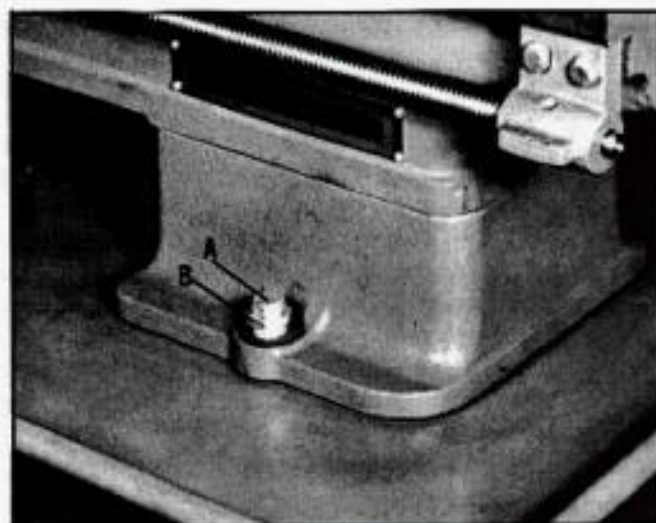

Fig. 15.
4. If an adjustment is necessary, loosen two bolts (A) Fig. 15, located at the front and rear of the right hand riser block under the tailstock, adjust bushings (B) and retighten bolts (A). Repeat Step 3 and adjust further if necessary.